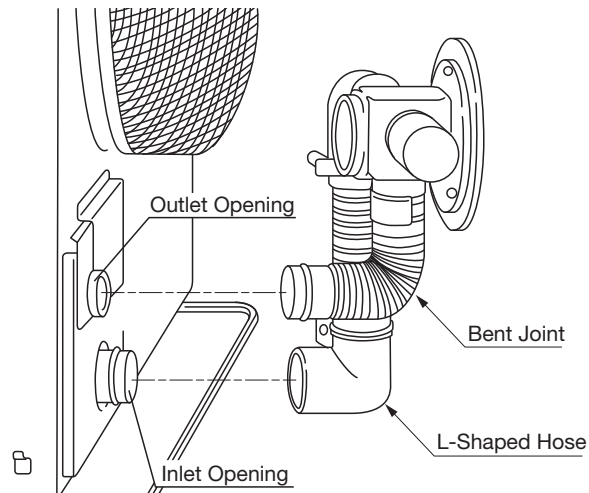

Fig. 7
5. Move the heater into position. Connect the bent joint to the exhaust outlet opening (upper opening) and attach the L-shaped hose to the intake inlet opening. Make sure all connections are tight (See Fig. 7).